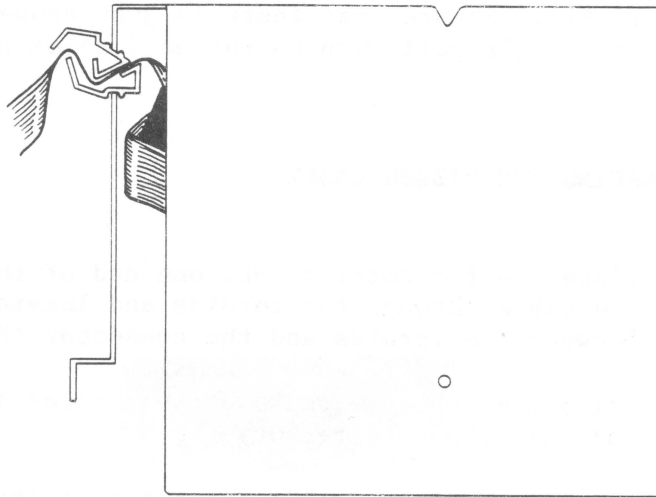

FIGURE 15
8. Replace the strain relief guard at the back of the metal shield. Fit the guard as close as possible to the toroid while leaving yourself enough cable to work with. Make an "S" in the cable right next to the metal shield. Fit the bottom portion of the "S" into the one part of the strain relief with the triangle side fitting inside the metal shield. The other part of the strain relief fits with the triangle against the cable and into the lower portion of the strain relief. The top part then slips inside the metal shield (Figure 15).